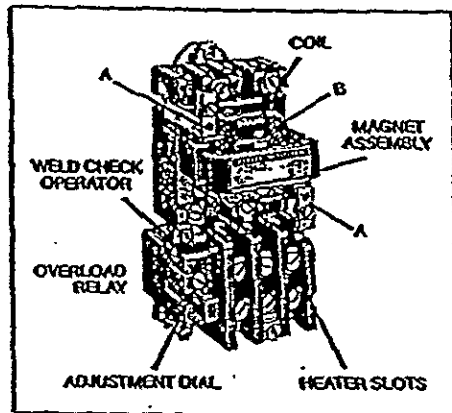

Figure 1. Typical 300-Line magnetic starter.
2. Press against coil while putting up slightly on coil retainers (A-Figure 1) and move retainers away from coil.